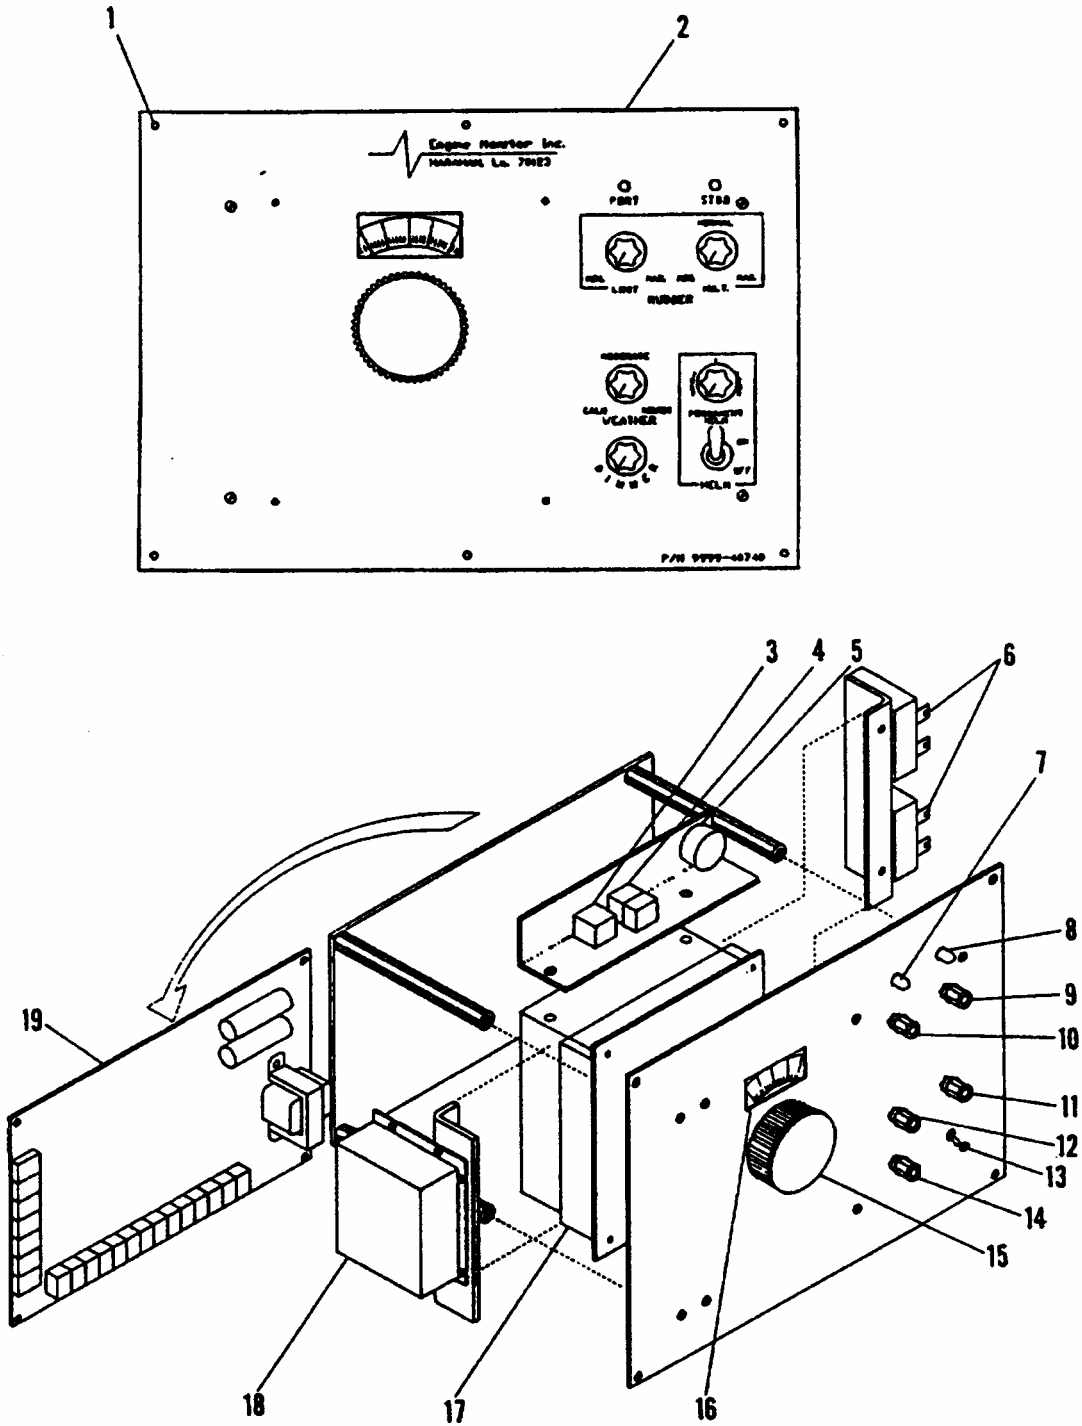

Figure 3-104.1. Autopilot Unit
3-117.1. Replace/Repair Autopilot Panel Assembly (Figure 3-104.1)
- b. Secure with four screws (1).
- d. Close access panel (2, Figure 3-104.1).
- e. Fasten two latching screws (3, Figure 3-104.1) securing access panel (2, Figure 3-104.1) to pilothouse control console (1, Figure 3-104.1).